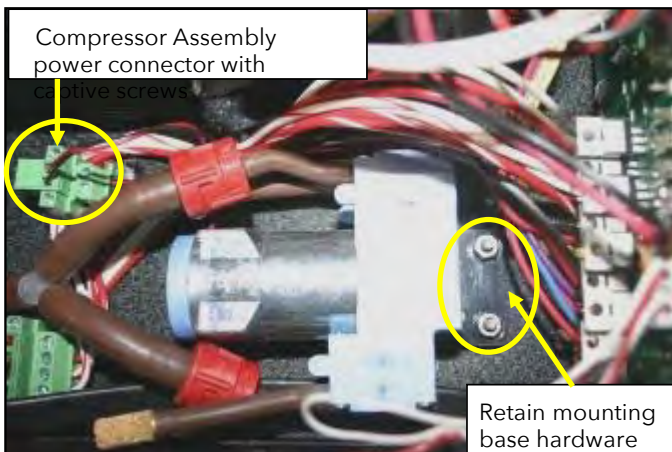

Figure 8. COMPRESSOR ASSEMBLY.
- Loosen the captive screw at each end of the Compressor Assembly power connector. Refer to Figure 8. Captive screws cannot be removed. Once the two screws are loose, disconnect the green power connector.